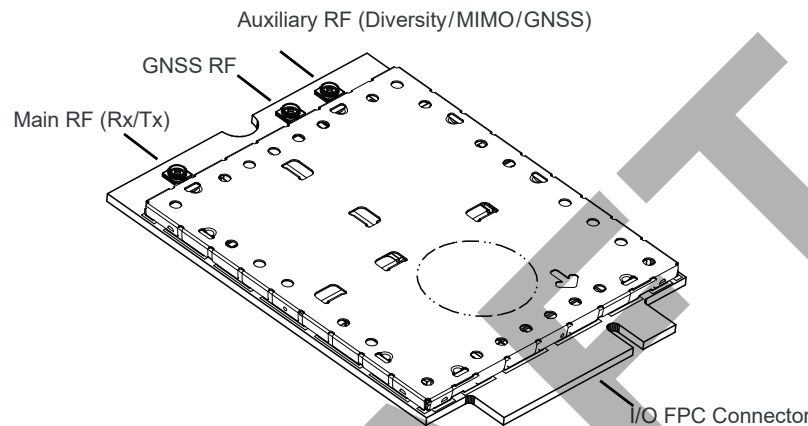

Figure 3-1: Module Connectors (Preliminary shield design, subject to change)
- Connect to system ground using the mounting hole shown in Figure 3-1 on page 33.